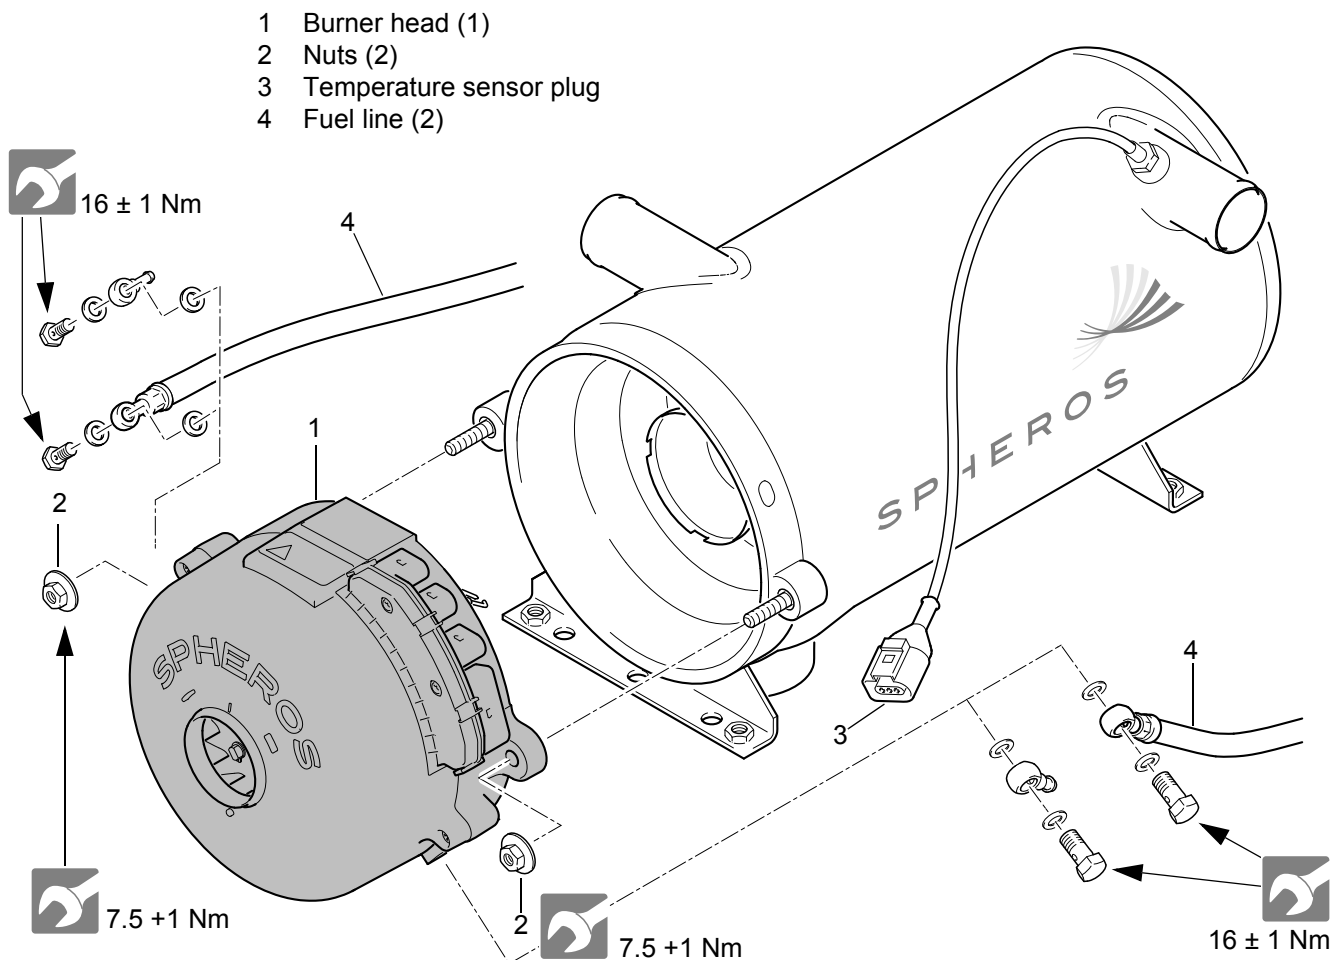
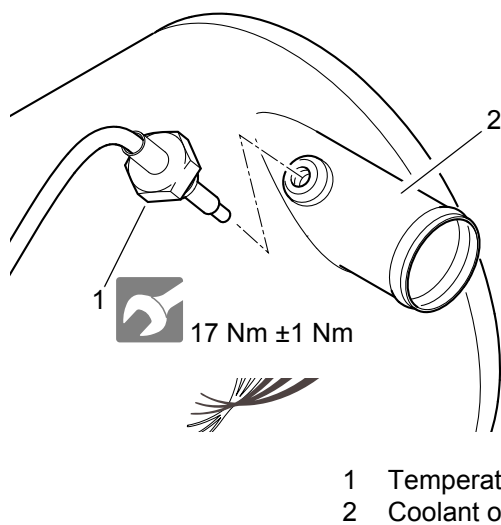

Fig. 801 Burner head removal and installation
Fig. 802 Temperature sensor removal and installation
6. Unscrew fuel lines (4, Fig. 801) and seal with blank plugs.
7. Unscrew nuts (2).
8. Remove burner head (1).
1. Bring burner head (1, Fig. 801) in assembly position and ensure center alignment and correct fit.
2. Place nuts (2) and alternately tighten them slightly.
3. Tighten nuts (2) with $7.5 \text{ Nm} + 1 \text{ Nm}$.
6. Connect the temperature sensor plug (T).
7. Connect the plug for the circulating pump (P).
8. Connect the plug for power supply/control (C).
The two combination nuts M8, connecting the burner head and the heat exchanger, must be tightened to torque, see Fig. 801, each and additional are to be secured using thread lock.
2. Disconnect the temperature sensor plug (3, Fig. 801).
3. Unscrew and remove the temperature sensor (1, Fig. 802).
1. Manually screw the temperature sensor (1, Fig. 802) into the coolant outlet (2).
2. Tighten the temperature sensor (1).
3. Connect the temperature sensor plug (3, Fig. 801).